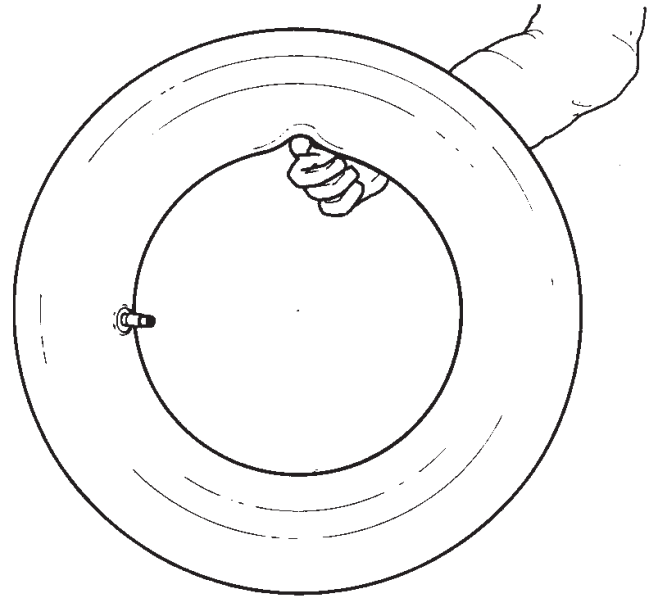

Fig.24
**C.** Inflate the tube slightly: if held with the index finger it should bend a little (Fig.24).